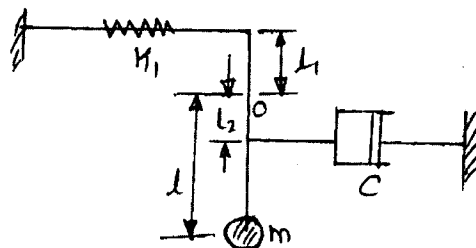

Fig. Q3 (b)
- b. The single pendulum is pivoted at point O as shown in Fig. Q3 (b). If the mass of the rod is negligible for small oscillation, find the damped natural frequency of the pendulum. (14 Marks)